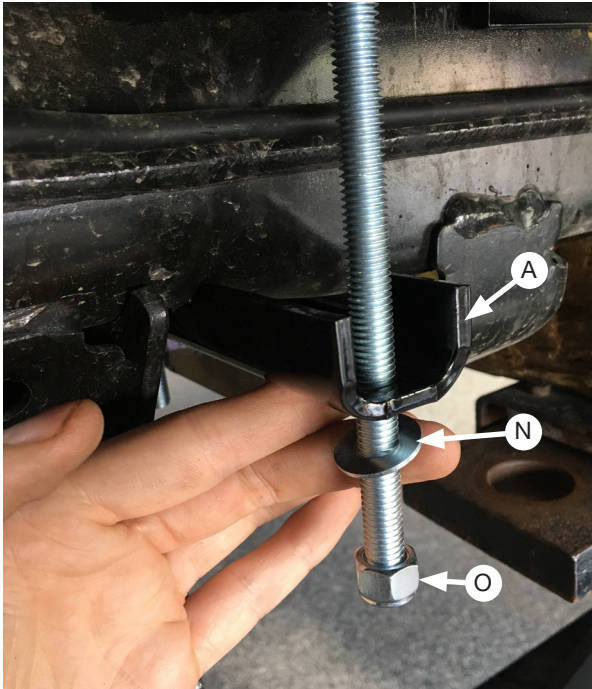
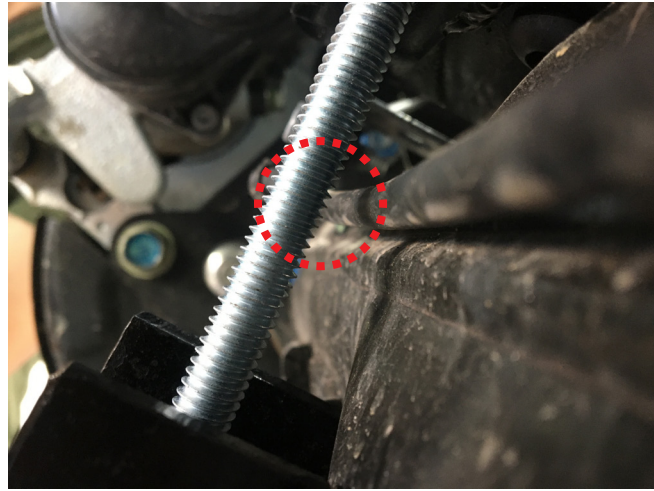

Fig. 20
Fig. 21
- Complete the lower mounting. Slip the lower clamp bar (A) over the long carriage bolts (M). Install a flat washer (N) and nylon lock nut (O) onto each of the lower carriage bolts (Fig. 20). Torque each nut to 10 lb.-ft. (14Nm) making sure to tighten the nuts down evenly so the clamp bar is level. Be sure to leave adequate clearance between the carriage bolts and the brake lines (Fig. 21).